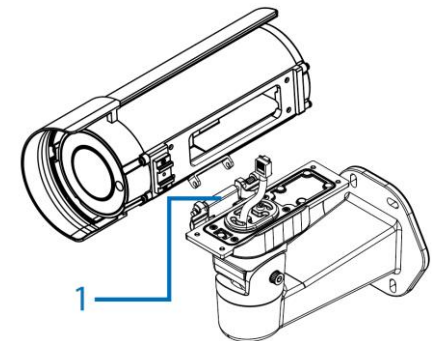

Figure 5
2. Place the camera onto the hinge (1) (Figure 5) and release the pin so that the camera is attached to the mounting arm plate.